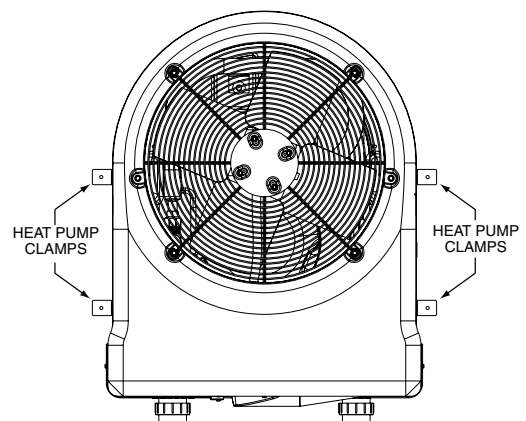

Figure 4.
3. Place the clamps at the base of the heat pump in the 4 locations indicated in Figure 4, (2 in. undercut [notched area] on either side).